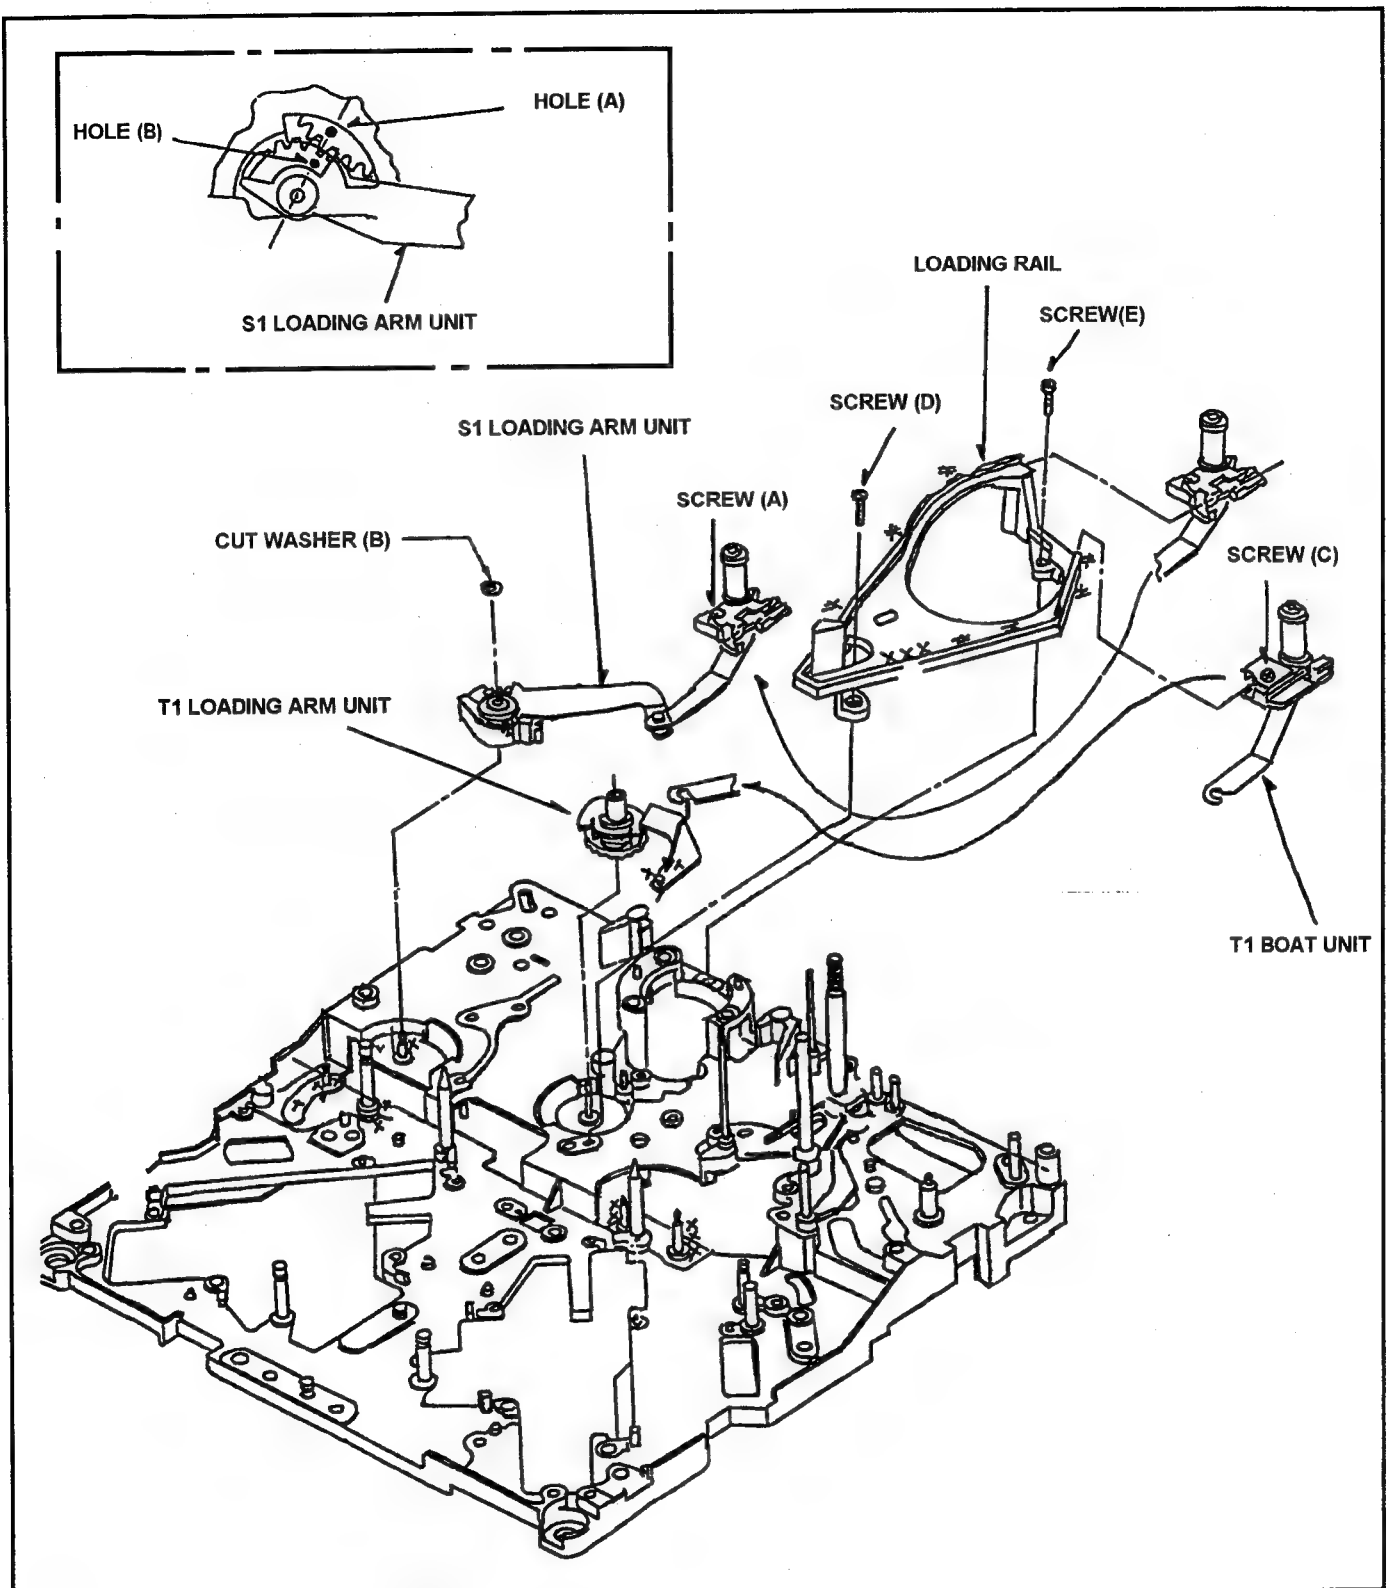

Fig. 6-13-1 Removal of S1 Post Loading Arm Unit
3. Remove the S5 Post Base Unit (Refer to item 6-17).
4. Remove the Tension Arm Unit(Refer to item 6-18).
5. Unscrew the screw (A) and remove the S1 Post from Loading Rail as shown in Figure 6-13-1.
6. Remove the Cut Washer (B) and remove the S1 Loading Arm Unit as shown in Figure 6-13-1.
1. When install the S1 Post Loading Arm Unit, then the hole (A) should be matched hole (B) as shown in Figure 6-13-1.
3. Unscrew the screw (C) and remove the T1 Post from Loading Rail as shown in Figure 6-13-1.
4. Hang off the T1 Boat Unit from T1 Loading Arm Unit as shown in Figure 6-13-1.
3. Remove the cylinder Unit. (Refer to item 6-1).
4. Move the T1 Post to loading direction by manual ejecting method until the screw (D) can be removal position as shown in Figure 6-13-1.
5. Unscrew the 2 screws (A) and (C), then remove the S1 and T1 Post from Loading Rail as shown in Figure 6-13-1.
6. Unscrew the 2 screws (D) and (E), then remove the Loading Rail as shown in Figure 6-13-1.
7. Remove the T1 Loading Arm Unit as shown in Figure 6-13-1.